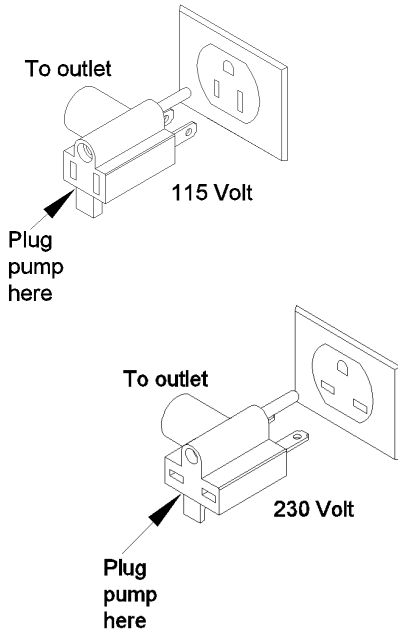

Figure 1
**⚠ WARNING** *Risk of electrical shock. Can burn or kill. To reduce risk of electrical shock, pull plug before replacing switch. Be sure switch is connected only to a properly grounded grounding-type receptacle. Where a 2-prong wall receptacle is encountered, it must be replaced with a properly grounded 3-prong receptacle installed in accordance with codes and ordinances that apply (See Figure 1). If used with a pedestal sump pump or other non-submersible motor, be sure switch setting does not allow water to touch motor.*